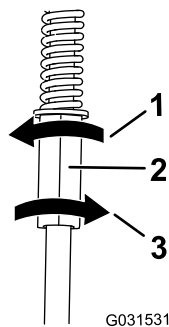

Figure 65
4. Rotate the left control rod in quarter-turn increments until the machine tracks straight (Figure 65).